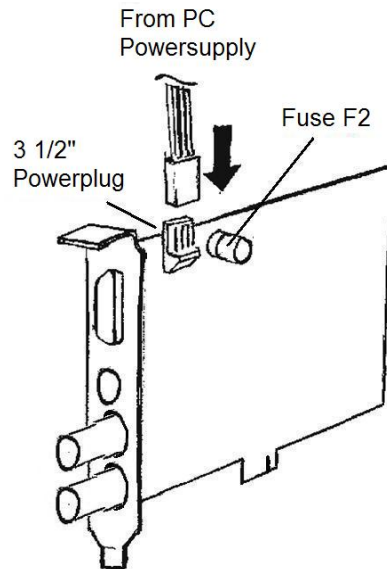

Figure 19: Set up of the power supply feature
- One of the computer's 3¹/₂" power plugs has to be connected to the power inlet of the framegrabber, if the camera power supply feature is intended to be used. (The 1.6 A fuse in socket F2 secures the power supply output. *Figure 19* depicts the connection.